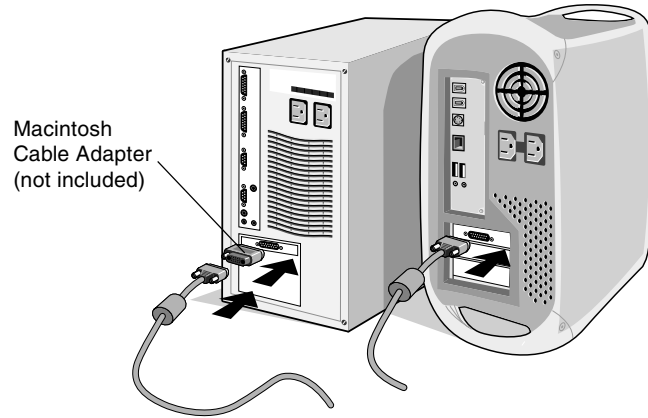

Figure B.1
**For the MAC:** Connect the MultiSync Macintosh cable adapter to the computer, then attach the 15-pin mini D-SUB signal cable to the MultiSync Macintosh cable adapter (**Figure B.1**).